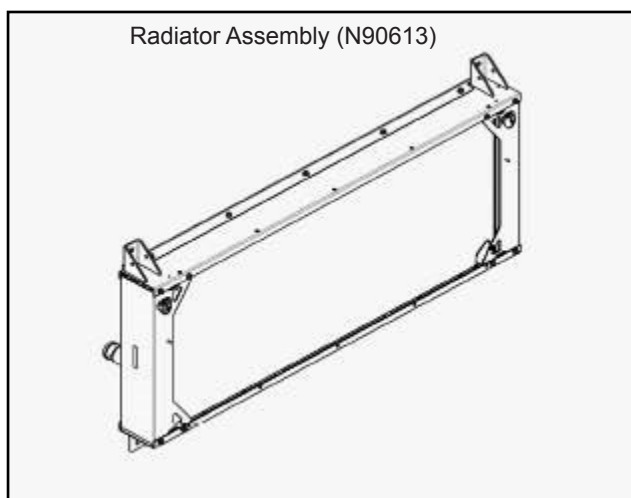

Figure 3 - Typical View of Radiator Assembly
1.11. Install the radiator assembly into the vehicle (see Figure 3).